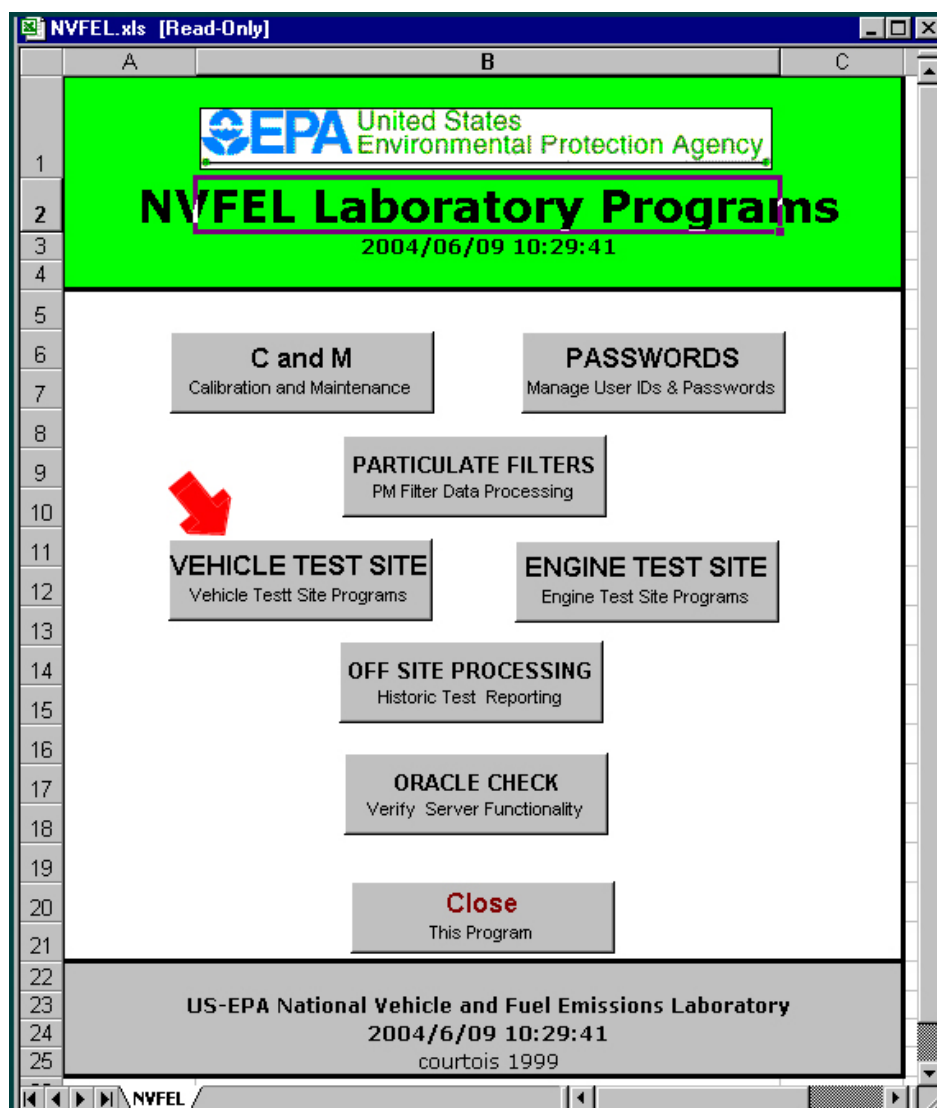

Figure 39
- 608 In the "NVFEL Laboratory Programs" screen, click on the "VEHICLE TEST SITE Vehicle Test Site Programs" button. See the arrow in Figure 39.